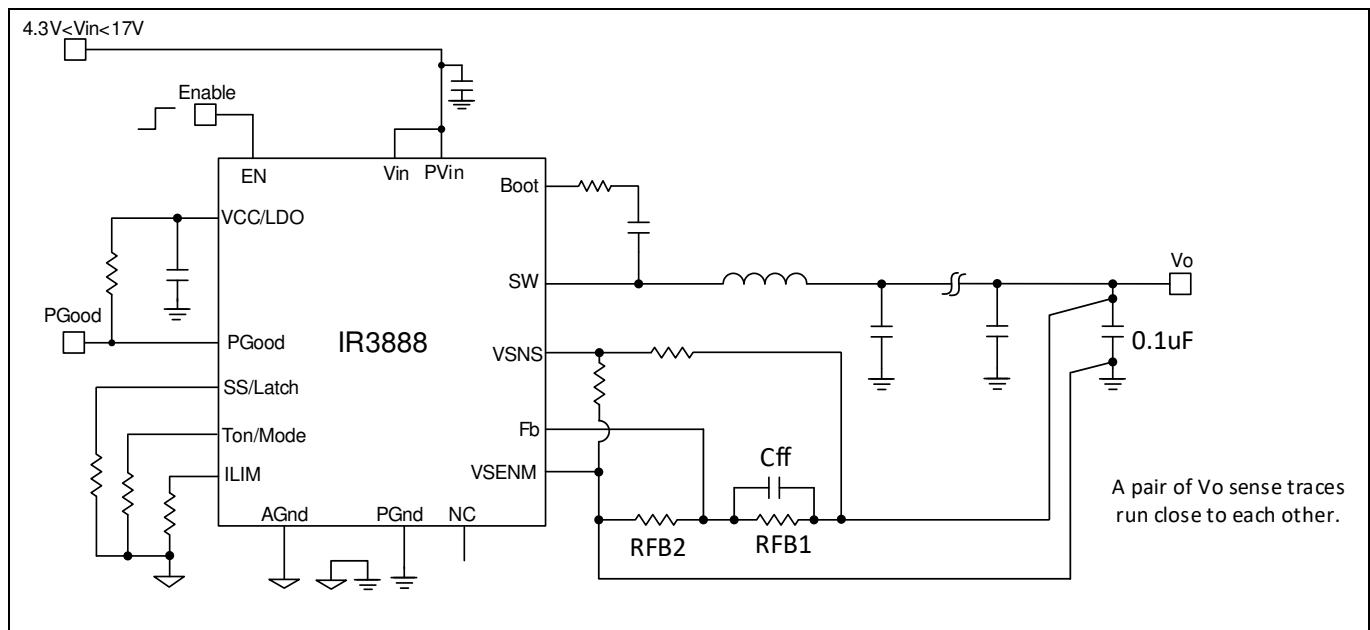

Figure 23 Pseudo remote V_o sense configuration
- If it is required to sense the output voltage at a remote location, pseudo remoting sensing can be implemented as follows. The configuration is also shown in Figure 23.